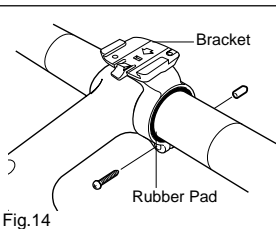

Fig.14
- By using the rubber pad, attach the bracket close to the handlebar stem (Fig. 14).